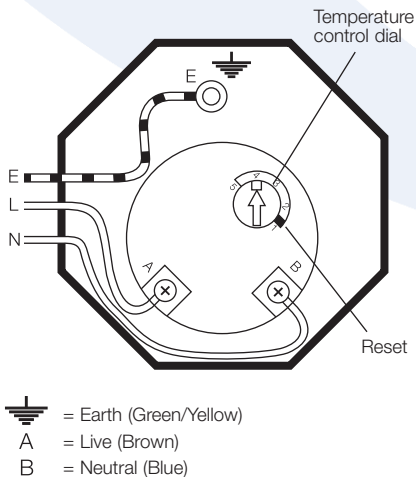

Figure 5-1: Immersion heater wiring connections
The 3kW 230V 50Hz-immersion heater should be wired in accordance with the instructions given in Figure 5-1.
- Wire the immersion heater in accordance with the wiring diagram (Figure 5-1). It should be wired through a double pole isolator switch or controller, with a minimum break capacity of 13 amp having contact separation of at least 3 mm, using 1.5mm sq. flexible cable, 85°C rubber insulated HOFRR sheathed, to comply with BS 6141 table 8 and must be fully earthed.